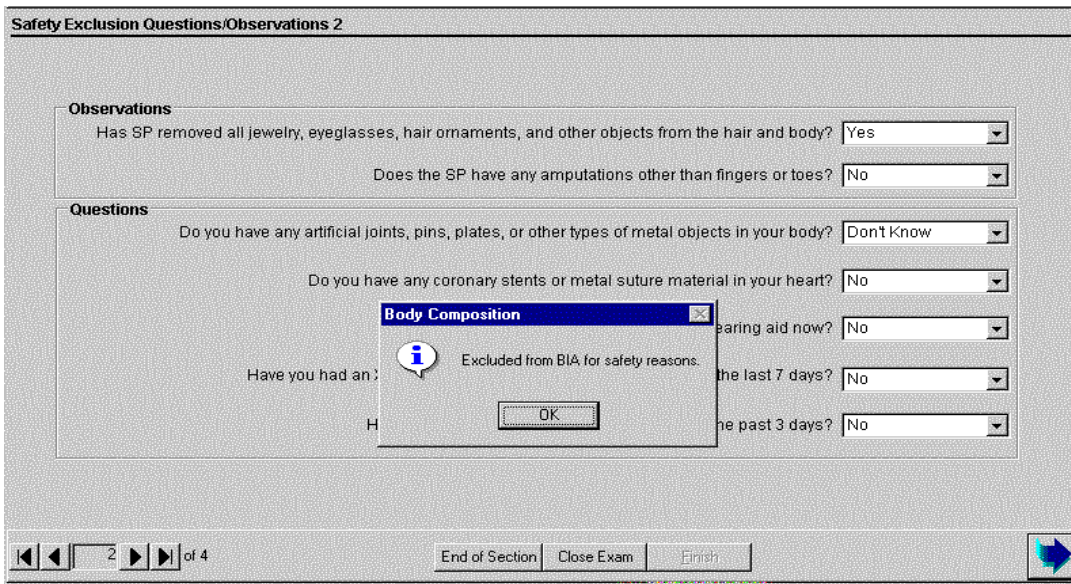

Figure 4-23. Safety/exclusion questions (don't know)
- If the response to any of the questions is Don't Know, the SP will be excluded from one or both components depending on the exclusion question. Click OK to this message and continue to the next screen. See Figure 4-23.